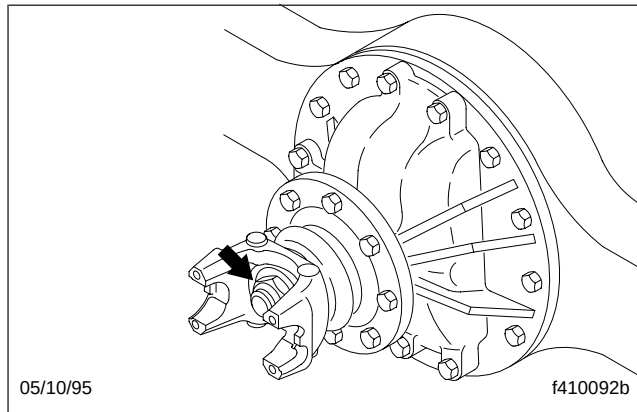

Fig. 16, Axle End-Yoke Locknut
1. Apply Loctite® 242 to the input- or output-shaft threads where the end-yoke locknut will be installed. See Fig. 16.